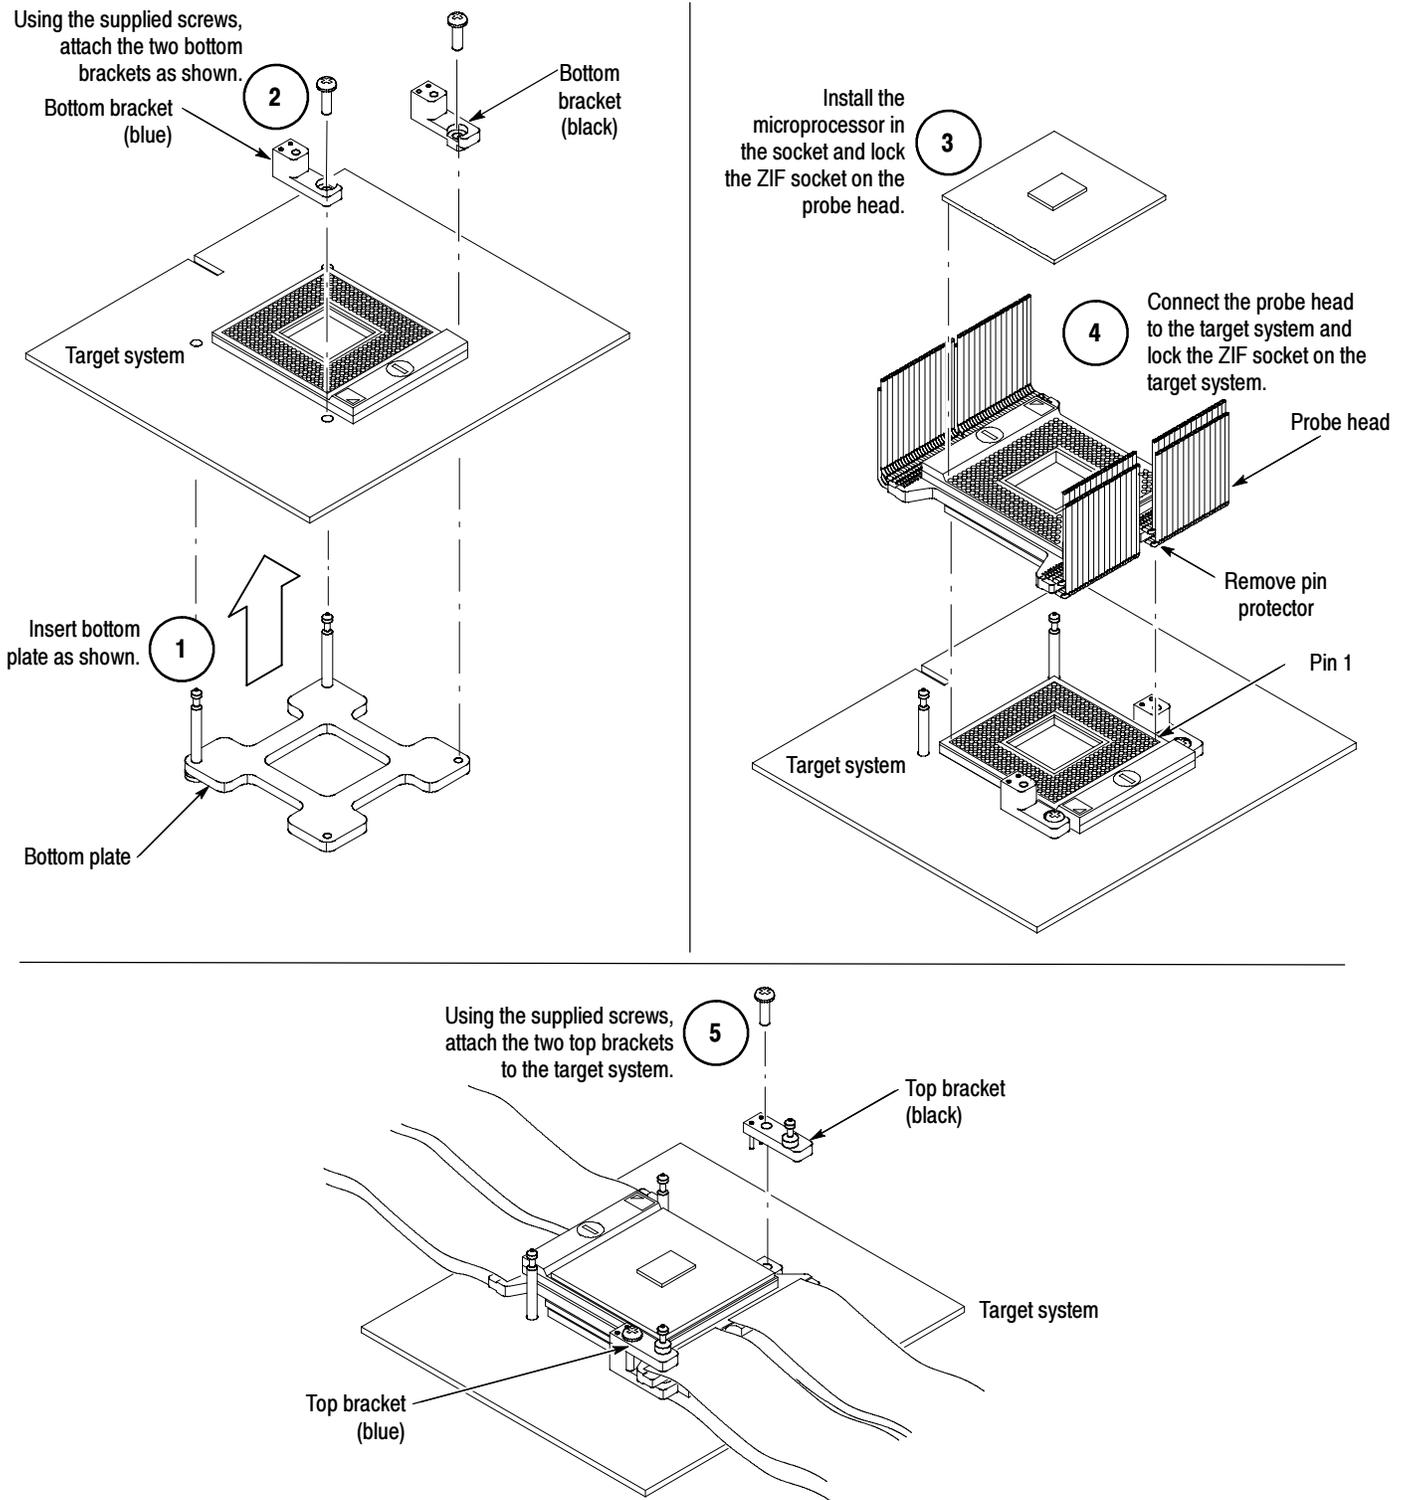

Figure 2: Probe head installation using Chipcool 1 & 2 heat sink hardware
2. Reverse the steps in Figures 2 and 3 on pages 6 and 7 to remove the probe head.